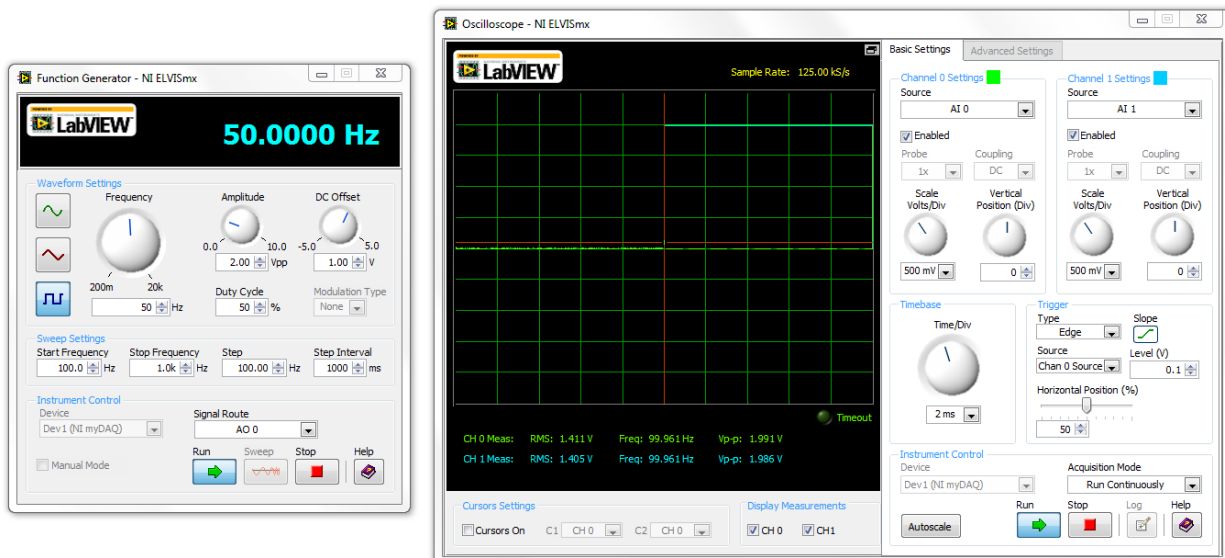

Figure 7: Prefilter oscilloscope output screen
8. Use the screwdriver to adjust the variable resistor until the input and output are the same or the gain is **one**. Your final oscilloscope output should look similar to Figure 7.